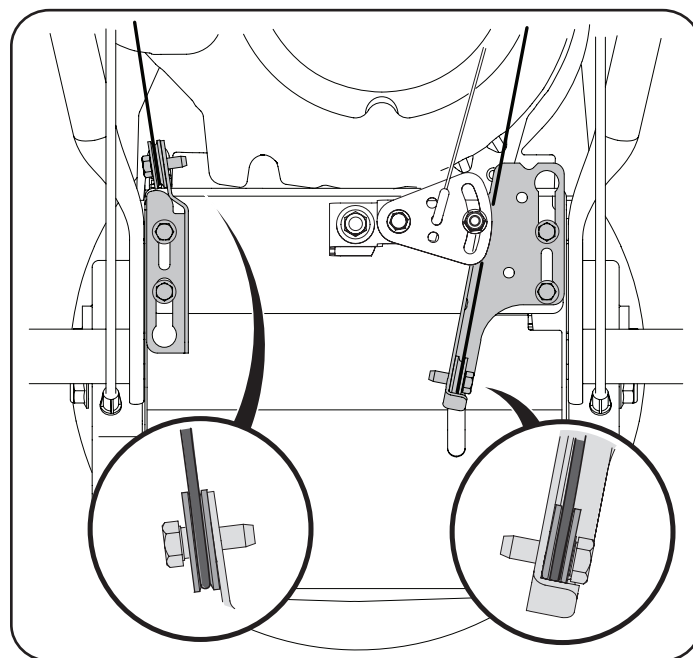

Figure 3
3. Observe lower rear area of equipment to be sure both cables are aligned and seated properly in roller guides. See Figure 3.